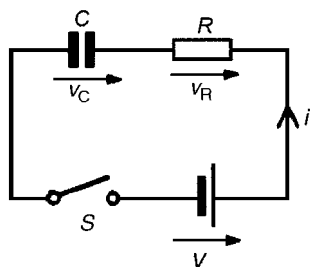

Figure 18.1
- (a) The circuit diagram for a series connected C – R circuit is shown in Fig. 18.1 When switch S is closed then by Kirchhoff’s voltage law: